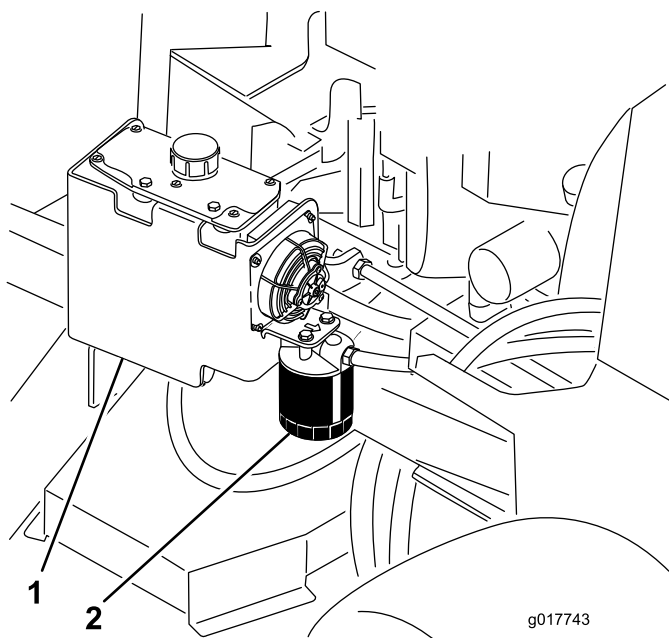

Figure 82
- Locate the filter and place a drain pan under the filter (Figure 82).